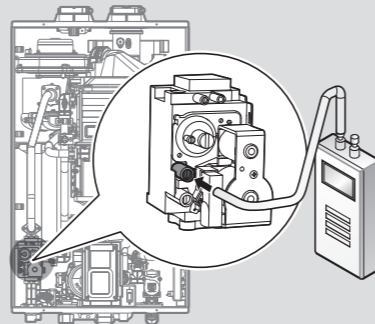

Figure 9
- Open the offset pressure port by loosening the screw two turns as shown in Figure 9.